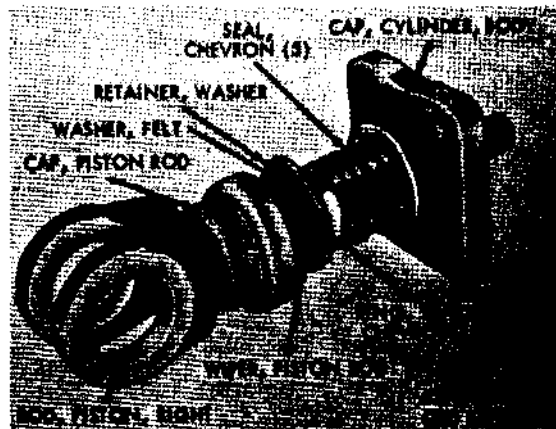

Figure 497. Piston rod and cylinder body cap assembly
- (d) Remove piston rod cap (Z), piston rod wiper (X), felt washer (W), felt washer retainer (V), chevron seal ring (U), and five chevron seals (T) from cylinder body cap (fig. 497).
- (e) Use suitable adapter and press pivot pin bushings (N) from right cylinder body (M).
- (1) Cleaning. Clean all parts in mineral spirits paint thinner or dry-cleaning